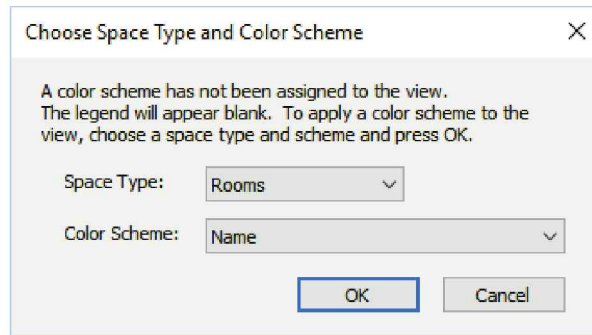

FIGURE 12-3.8 Color fill prompt
21. Select **Name** and then **OK** to the following prompt (Figure 12-3.8).